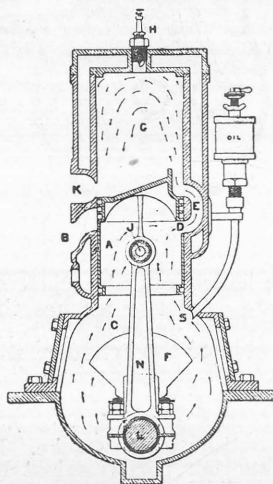
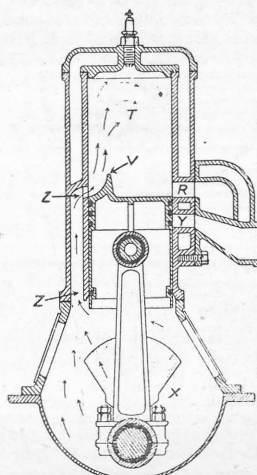

Fig. 15.
Fig. 16
However, even three-port two-stroke motors vary slightly in design and arrangement, as will be seen by comparing Fig. 16 with Fig. 15. In the latter there is a port in the side of the piston to admit the mixture of air and gas from the crank chamber (X), but in Fig. 16 there is no port in the piston. When the piston reaches the bottom of the stroke the port (Z) is open, and as this port communicates direct with the crank chamber the gas is admitted into the combustion chamber (T), and deflected upwards by the lip-shaped piston top (V). At the same time the port (R) on the opposite side of the cylinder is opened, and the exhaust gases pass out, assisted, of course, by the pressure of the fresh mixture entering at (Z). When the piston is at the top of the stroke the port (Y) is open, and fuel and air is admitted from the carburetter into the crank chamber, where it is compressed ready for entering the passage (Z) on the down stroke.